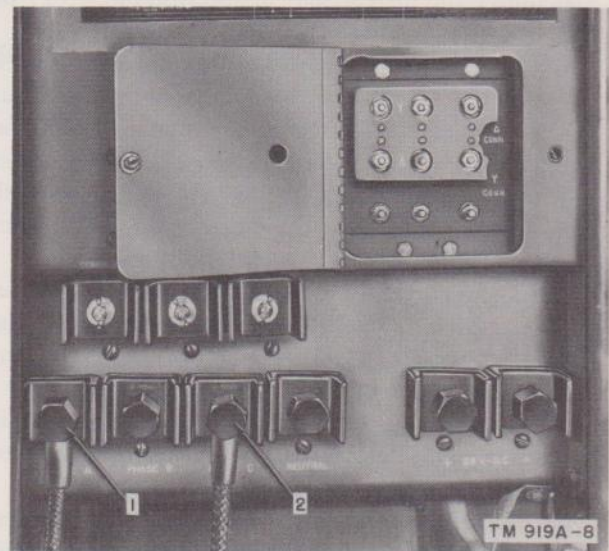
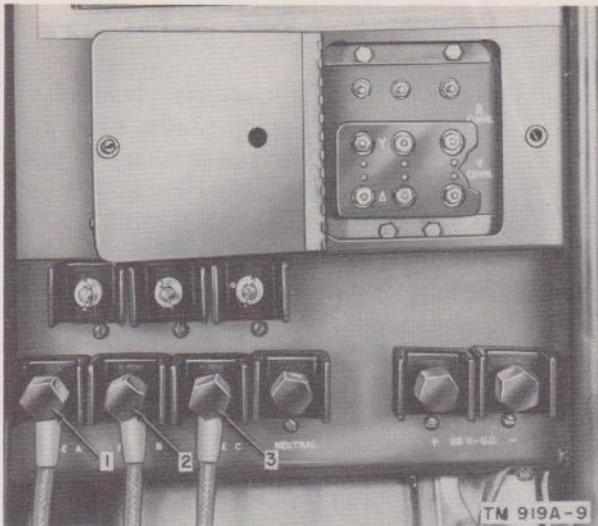

Figure 8. Single phase, 120 volt connections (Delta).
Figure 9. Three-phase, 120/208-volt connections (Wye).
a. Ac Output Connections. The wye-delta change board and the output terminals are located on the right side of the unit. Open the change board door to check the ac output rating in which the generator set is connected. The symbol of the rated load will be either Y (wye) or Δ (delta). To change the voltage connections, remove the six nuts and washers that secure the jumper board to the terminal board. For 120-volt, single-phase, 10-kw operation, connect the jumper board in the delta position (fig. 8). Connect cables from the load to output terminals marked PHASE A (1, fig. 8) and PHASE C (2). Use #0 AWG (American Wire Gauge) cable. For 120/208-volt, three-phase, 12.5-kw operation, connect the jumper board in the wye position (fig. 9). Connect cables from the load to output terminals marked PHASE A (1, fig. 9), PHASE B (2), PHASE C (3), and NEUTRAL (if required). Use #4 AWG cable. Figures 8 and 9 show the proper delta and wye connections.